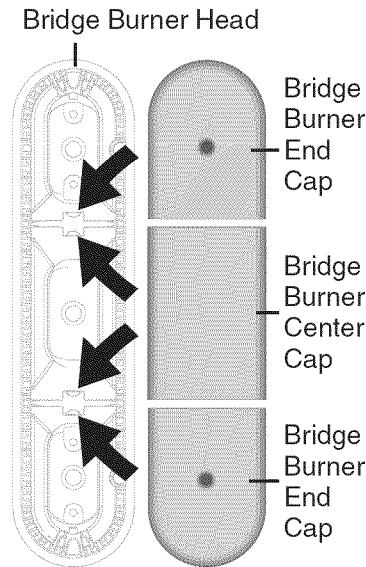

Figure 2
5. Position Bridge Burner Caps. These include one Bridge Burner Center Cap (rectangular shaped) and the two Bridge Burner End Caps (The Bridge Burner End Caps will fit either the front or rear Bridge Burner Head locations). Make sure that the tabs located under the Bridge Burner Caps fall into the slots located in the Bridge Burner Head (See arrows in Figure 2) and that all the Bridge Burner Caps lie flat and evenly on the Bridge Burner Head.